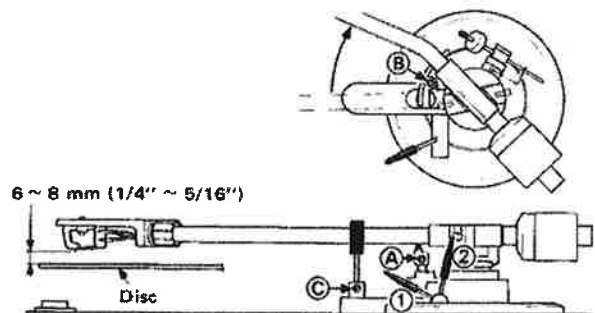

Fig. 17
- Set the cueing lever to ∇ . Loosen the set screw at A in Fig. 17, and adjust elevator height so that the stylus is 6 ~ 8 mm above the record surface. Tighten set screw A.